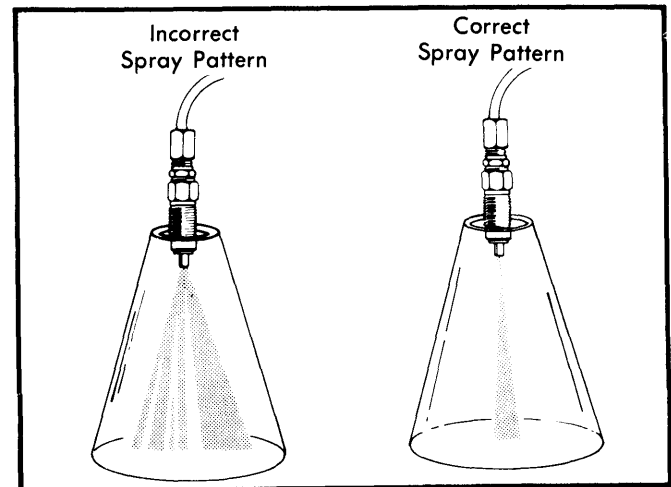

Fig. 10 Injector Nozzle Spray Patterns
3) Build nozzle pressure slow enough to determine exact minimum opening pressure of nozzle. Minimum opening pressure is 1000 psi on V6 models or 1225 psi on V8 models for new nozzles and about 200 psi less for used nozzles. When nozzle releases pressure, note spray pattern and compare with examples shown in Fig. 10. If incorrect, or if a liquid stream, replace nozzle.